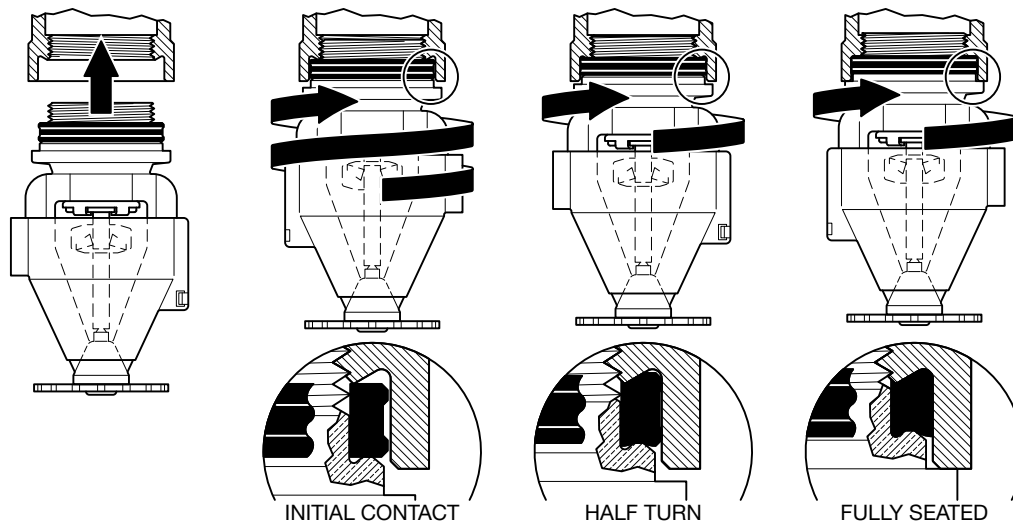

FIGURE 3
Step 1. Thread the ESFR-25 RIS by hand into the RIS welded fitting until the RIS gasket makes initial contact as shown in Figure 3.
Step 2. Continue to rotate the ESFR-25 RIS by hand a minimum of a 1/2 turn, through fully seating the sprinkler to produce a water-tight seal as shown in Figure 3.